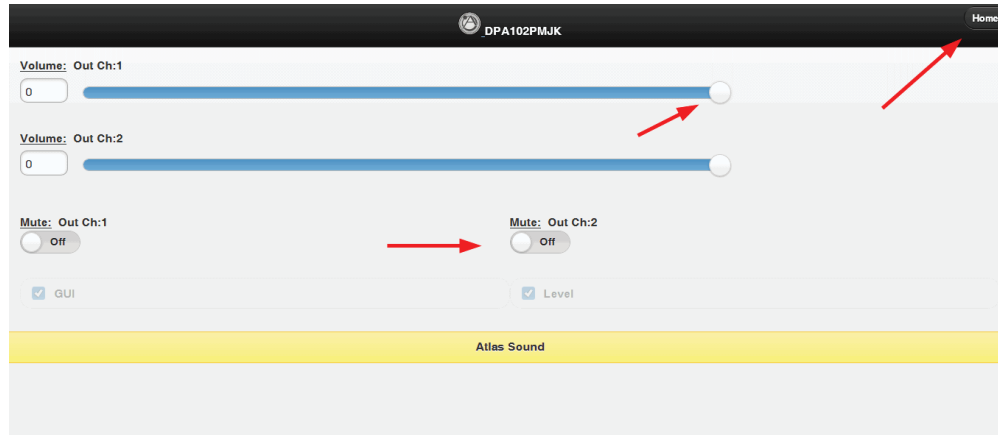

Figure 4
- The GUI will open to a Mobile page as shown in Figure 4. Mobile access will allow for level adjustment and home page access once the administrator user name and password are accurately entered when prompted.